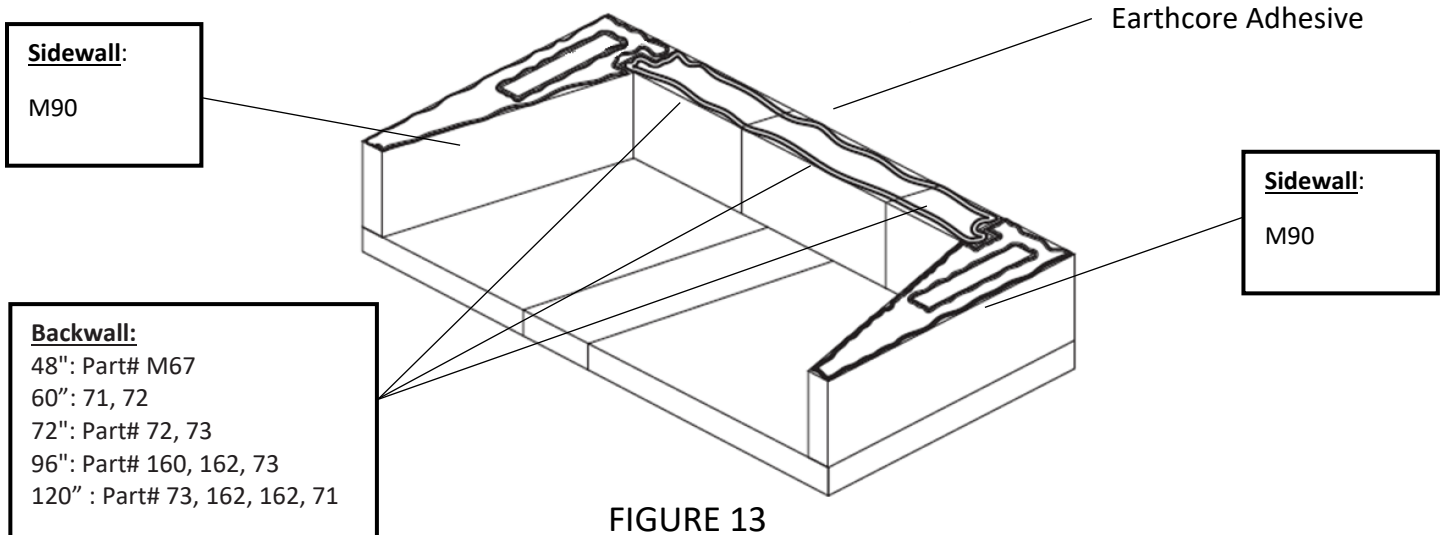

FIGURE 13
- 3) Continue assembly of the consecutive courses of the firebox side walls, **making sure to stagger the back wall components so that the vertical joints do not align**. Apply Earthcore Adhesive to the top of each layer of side wall and back wall components before setting the next course in place (**Figure 13**). Look for some Earthcore Adhesive to squeeze out along the joints of all contact surfaces as a sign that the joint is thoroughly sealed with the approved Earthcore Adhesive.